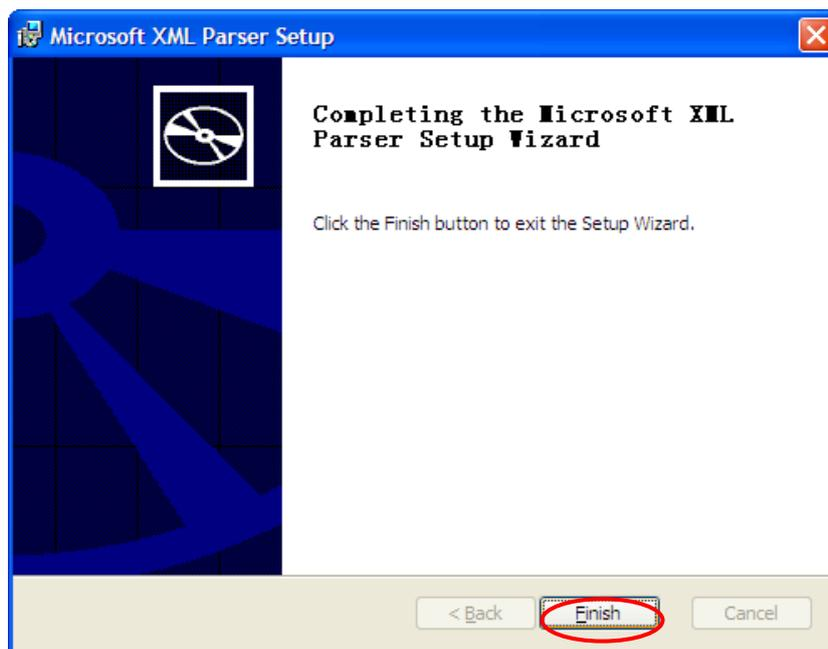

Figure 1-1-9 Installation Steps (9)
- After installation, click "Finish" button to exit the setup wizard MSXML 3.0, as shown in figure 1-1-9.